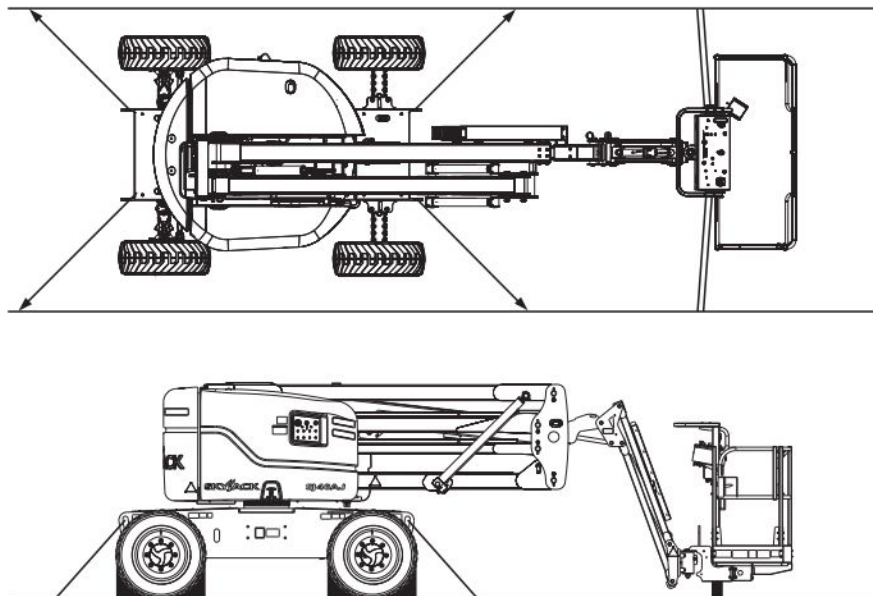

Figure 3-2. Tie-down Points
6. Anchor down MEWP to transport surface using tie-down points (refer to Figure 3-2).